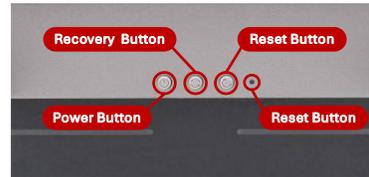

Figure 6.14. AGX Thor Recovery, Reset, and Power Button
- Press and hold the Recovery Button (see Figure 6.14 for location).
13. After flashing is complete, a full reboot is required (power off, then power on the Jetson AGX Thor, see the power button location in Figure 6.14).